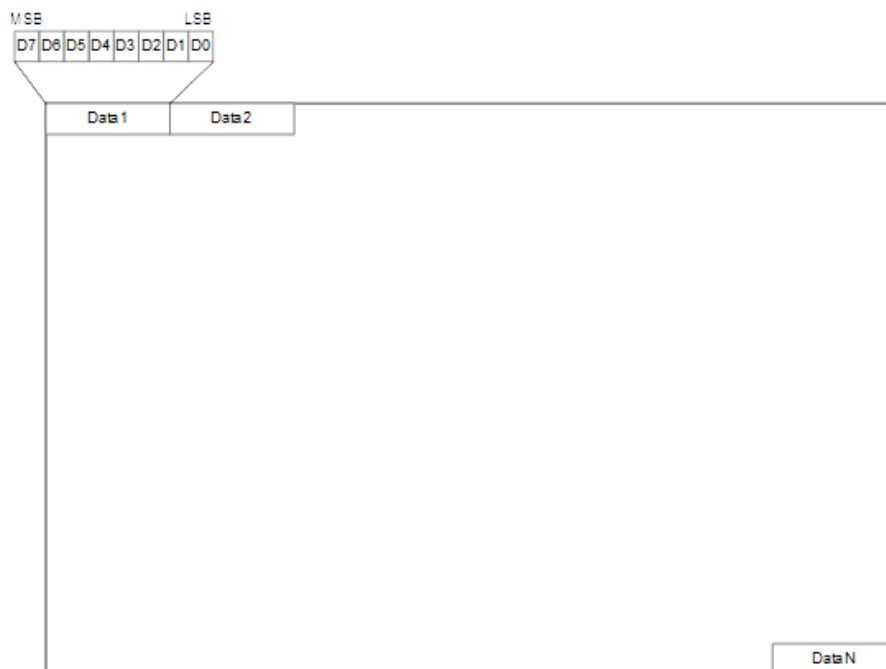

Figure 3. Display pixel locations on image data mapping.
- (1) First bits of first row
- (2) Last bits of last row. $N = (\text{Number of rows}/8) * \text{Number of columns}$
- (3) Pixels are going from left to right from top to bottom. A first pixel in a byte is the most significant one. See Figure 3. for reference.